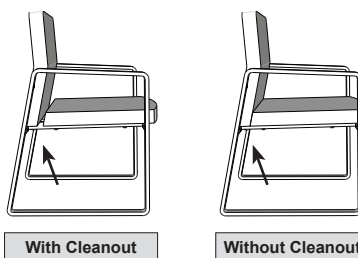

Fig 5
8. Attach seat to H-frame using 2" Allen bolts, as shown in figures 5 and 6. Use front set of H-frame holes for a seat with cleanout and use the back set of holes for a seat without cleanout.